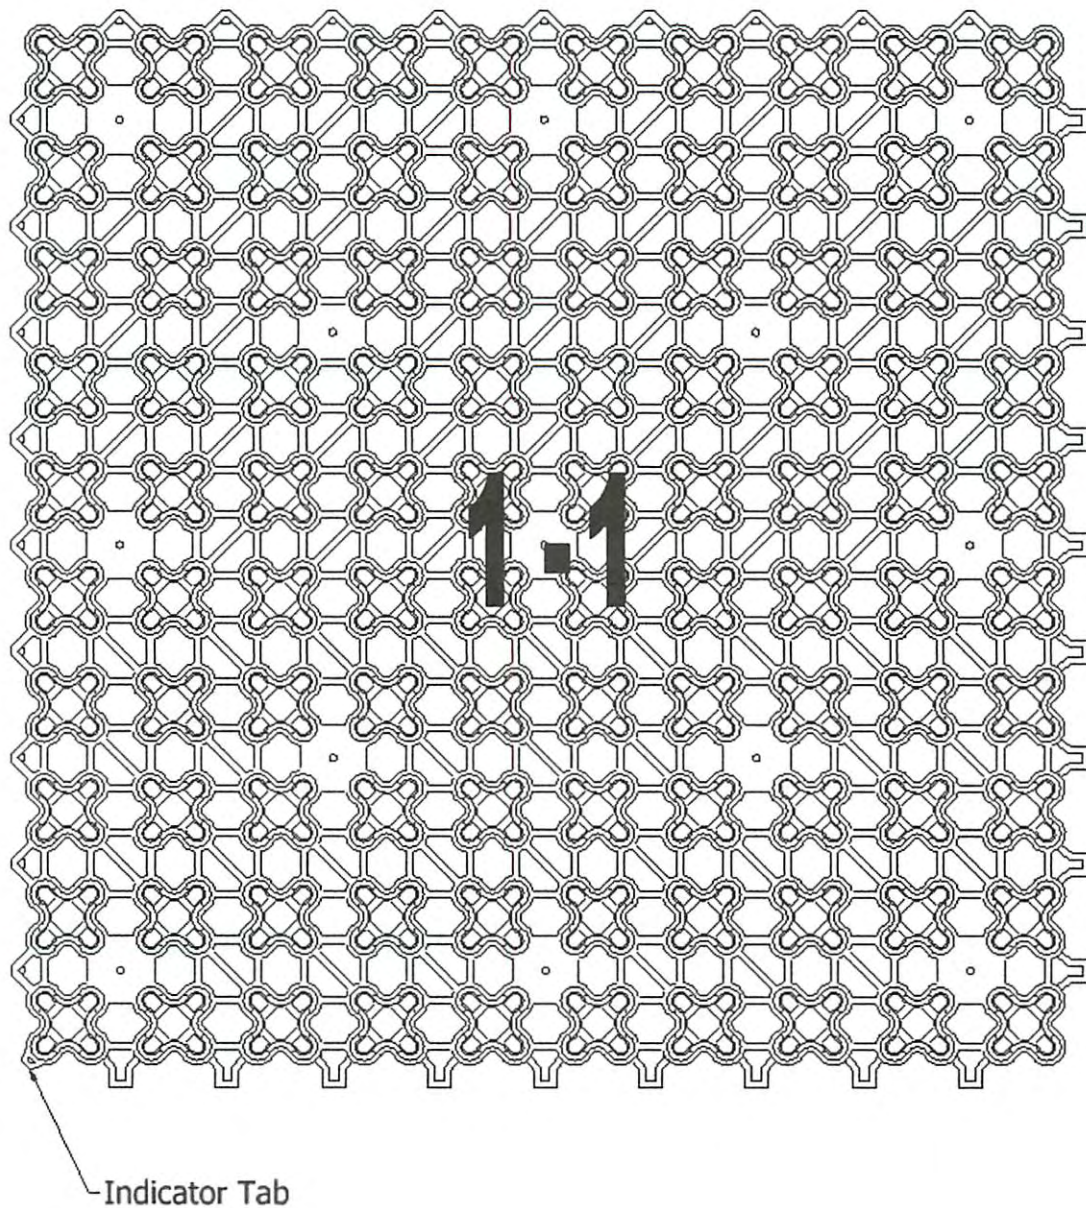

Figure 2
7. Upon approval of the filter fabric underlayment, begin installation of the AirDrain panels with one full panel in the upper left corner of the bunker. AirDrain panels are to be oriented with the larger clover openings facing upwards (struts or grid side up). Panels are to be placed with the indicator tab located toward the lower left-hand corner (see Figure 2). Ensuing panel connections to be secured with one-directional pull to interlock male and female connectors (see Figures 3 and 4). To facilitate a faster installation 3 panels can be put together and then connected to the main grid all at once. View a video of this procedure at the following link: AirDrain Installation Video